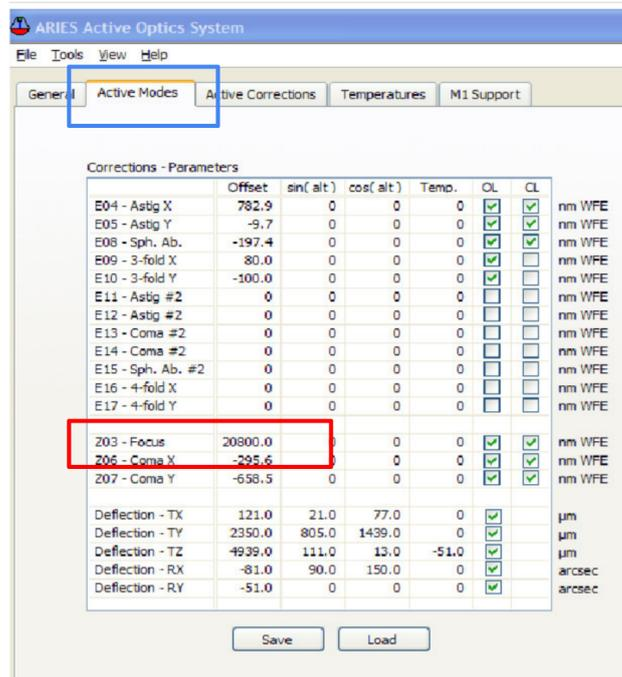

Figure 2: Panel to change M2 focus available on the AOS PC.
2. Adjust the focus between 20600-21000 (See Figure 2). This also depends on the current weather conditions.